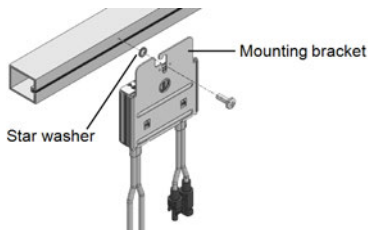

Figure 4: Power optimizer installation and grounding using a star washer
1. Determine the power optimizer mounting location and use the power optimizer mounting brackets to attach the power optimizer to the support structure (See *Figure 4*). It is recommended to mount the power optimizer in a location protected from direct sunlight. For frame-mounted power optimizers follow the instructions supplied with the optimizers, or refer to https://www.solaredge.com/sites/default/files/installing_frame_mounted_power_optimizers.pdf.
- **For mounting on a grounded metal rail:** Use the provided 5/16" stainless steel grounding star washer between the railing and the flat side of the mounting bracket. The grounding washer should break through the anodize coating of the railing to ensure low resistive connection. Apply torque of 9.5 N*m / 7 lb*ft. See *Figure 4*.